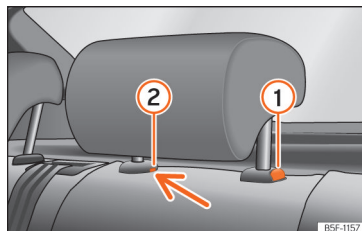

Fig. 70 Rear head restraint: removal.
- Press button »» Fig. 70 ①, while simultaneously pressing on the safety hole ② with a flat screwdriver a maximum of 5 mm wide, and remove the headrest.